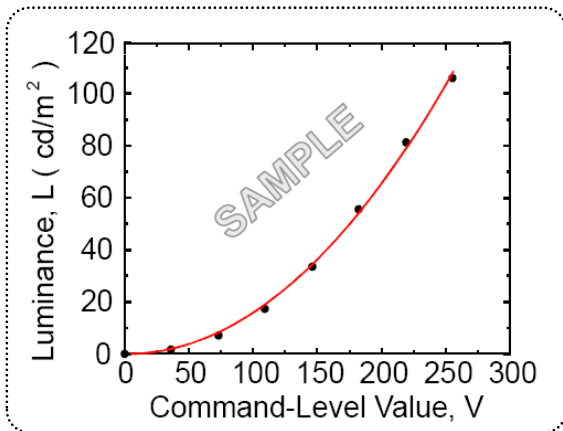
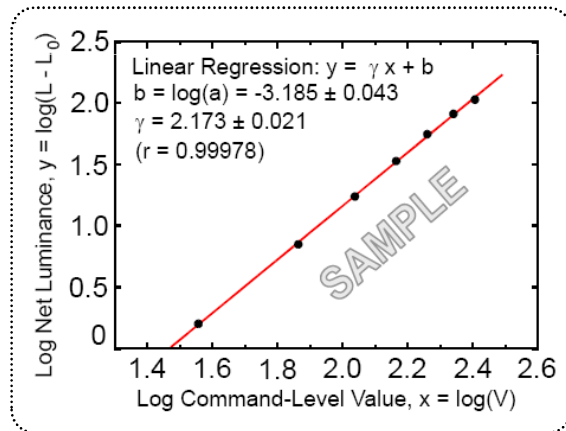

FIG.11 Sample Luminance vs. gray scale (using a 256 bit gray scale)
FIG.12 Sample Log-log plot of luminance vs. gray scale
7. GSR is the rate of gamma shift at up, down, left and right 60 degree viewing angle compare with center gamma. For more information see FIG.11 and FIG.12 **(By EZ Contrast)**
Here the Parameter a and gamma relate the signal level V to the luminance L. The GAMMA we calculate from the log-log representation (FIG.11)